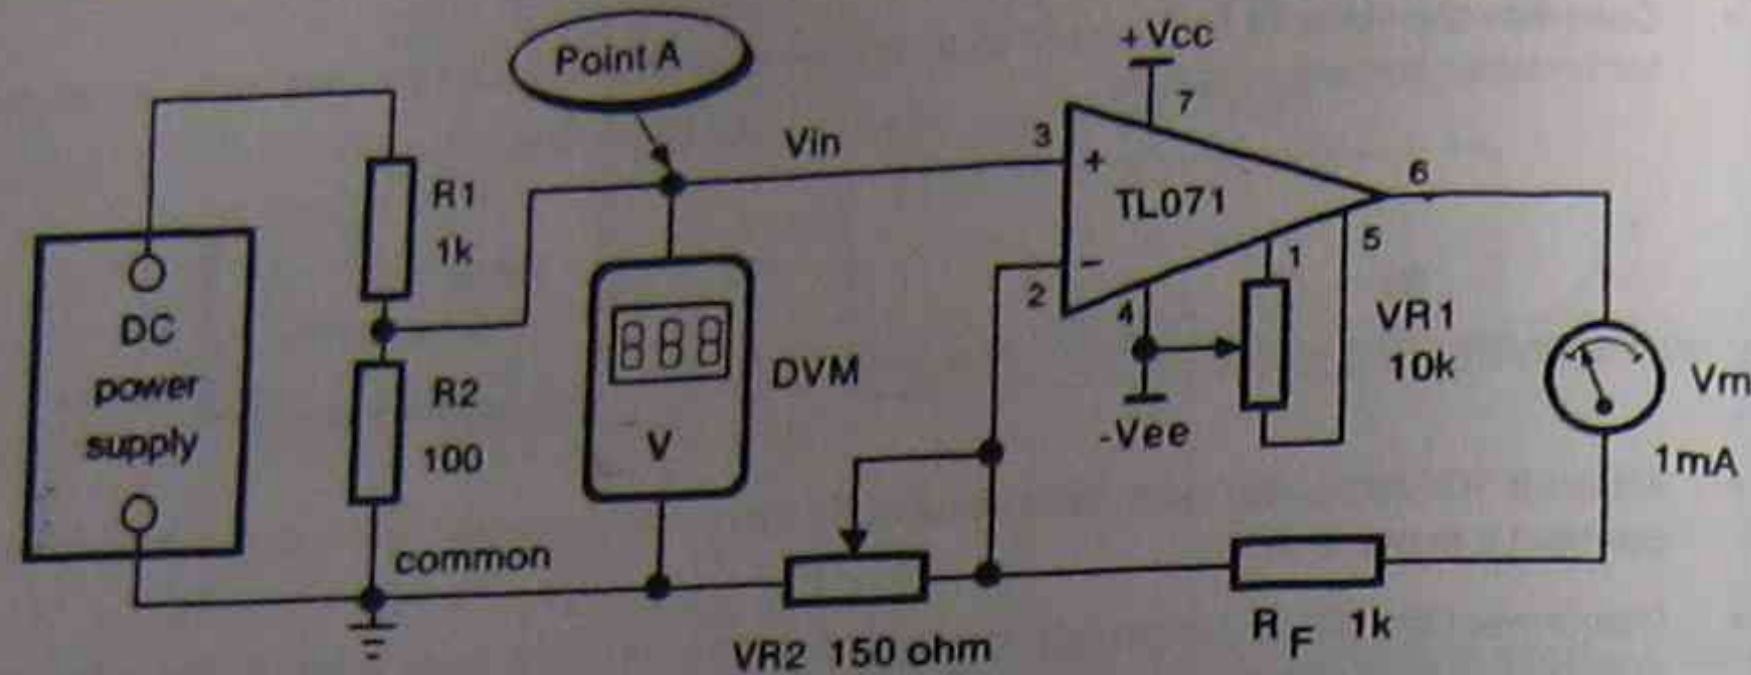

Fig.2: DC milli-voltmeter
- Adjust VR_2 to the calculated value then connect the circuit of Fig.2. Note that the non-inverting input (pin 3) is connected to the input voltage, derived from the potential divider formed by R_1 and R_2 . Use a DVM to monitor V_{IN} .